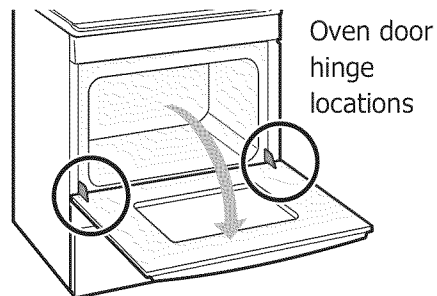

Figure 55: Door hinge location
1. Open oven door completely, horizontal with floor (See Figure 55).
3. Fully open the oven door, horizontal with floor (See Figure 55).